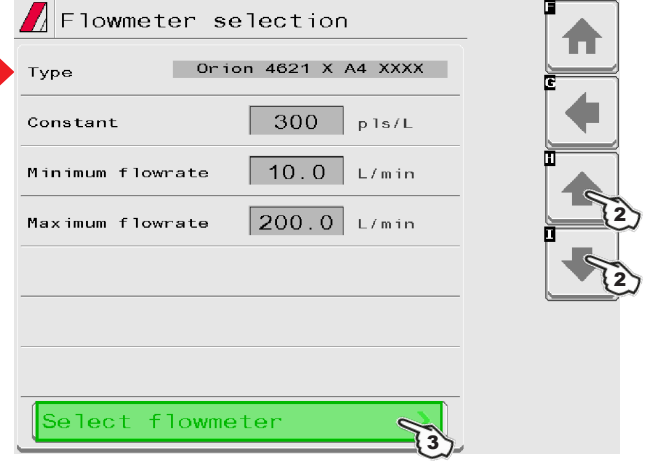

Fig. 40
- 1 Set the installed flowmeter by selecting it from the list in Fig. 40 (use keys 2 to scroll items, and key 3 to confirm).